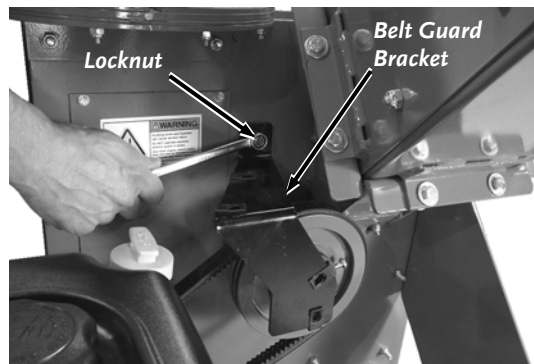

Figure 28
3. Remove the Locknut and Belt Guard Bracket (**Figure 28**).